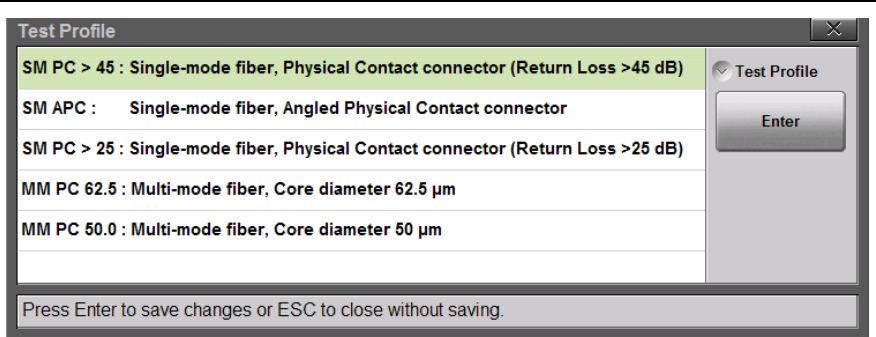
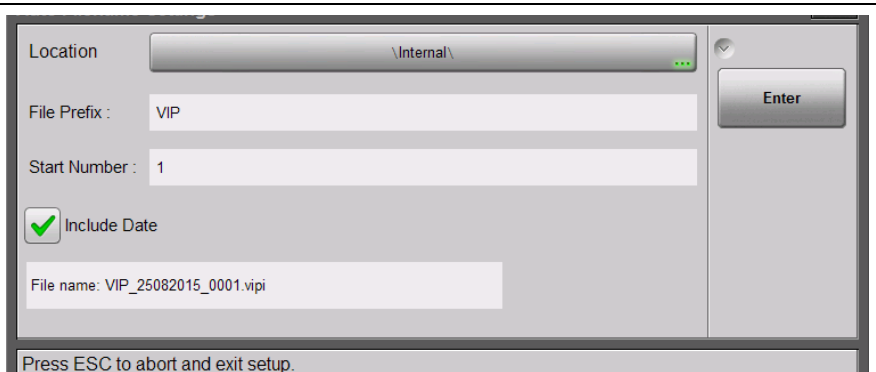

Figure 14-3. VIP Test Profile Selection Box
Figure 14-4. Auto Filename Settings Dialog
6. Press the **Auto Filename Settings** submenu key to open the dialog box shown in Figure 14-4. Press the **Location** bar to change the save location. To edit the file prefix or the starting number, press the appropriate text box. You may also include the current date.
<p>Probe Model: This submenu key shows the currently selected probe model. Press the key to display the list of supported VIP models from which you can select.</p> <p>Tip Type: Press this submenu key to display the Tip Type selection box. Use the rotary knob or the Up/Down arrow keys to highlight the appropriate probe tip, then press Enter to save the setting. See Table 14-1 on page 14-3 for a list and description of possible selections.</p> <p>To close the Tip Type dialog without making a change, press the Esc key.</p> <p>Test Profile: Press this submenu key to select a profile that matches the type of fiber being tested. Use the rotary knob or the Up/Down arrow keys to highlight the appropriate probe tip, then press Enter to save the setting. See Figure 14-3 on page 14-5.</p> <p>Auto Analyze On/Off: When set to On, the fiber endface image is automatically analyzed following capture. Select Auto Analyze Off if you want to view the image before manually executing the analysis.</p> <p>Auto Filename On/Off: If Auto Filename is On, the file naming scheme currently defined in the Auto Filename Settings dialog is applied when you press the Save icon. With Auto Filename Off, pressing the Save icon opens the Save dialog the same way as pressing Save under the File menu would.</p> <p>Auto Filename Settings: Press this submenu key to open a dialog box where you can preset the location and name of files to be saved. See Figure 14-4 on page 14-5. You can define a prefix (VIP is the factory default) and set the starting number from which file numbering will increment. You may also choose to include the current date in the file name, in the format DDMMYYYY. For example:</p> <pre>VIP_0001.vipi VIP_21082015_0001.vipi</pre>